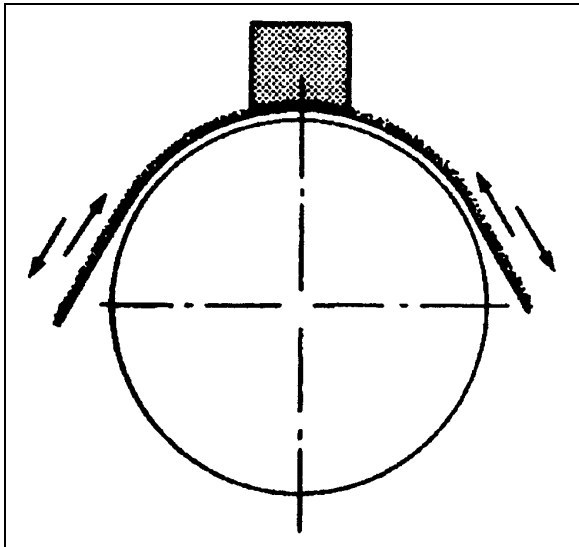
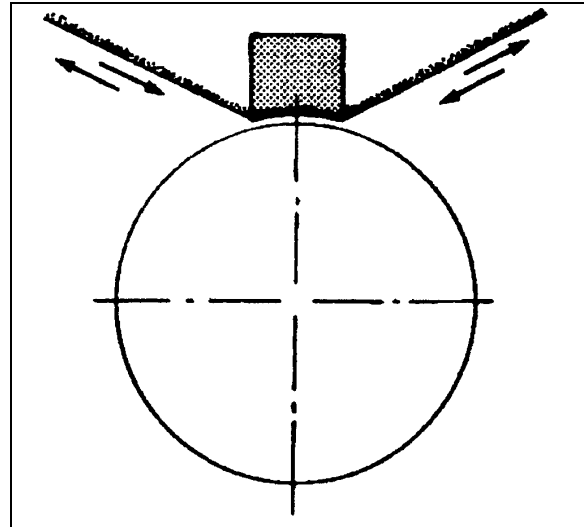

FIGURE 26: PROPER GRINDING TECHNIQUE 22317
FIGURE 27: IMPROPER GRINDING TECHNIQUE 22318
- a) Grinding with abrasive cloth medium grit (sandpaper) (grit 60) applied to a part of the commutator by hand. The new brushes installed in their brush holder and pressing against the cloth, one makes oscillate the rotor until complete grinding of the seating faces (Refer to figure 26). It is necessary to avoid raising the cloth under the brushes otherwise it would result, after grinding, to reduce and badly definite surfaces (Refer to figure 27).